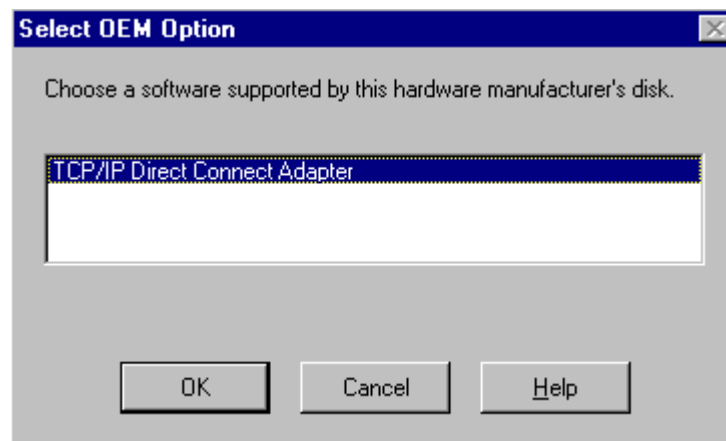

Figure 6-7. Select OEM Option
6. The Select OEM Option dialog (Figure 6-7) will display the Virtual Point to Point Adapter. Click **OK** to install the driver.